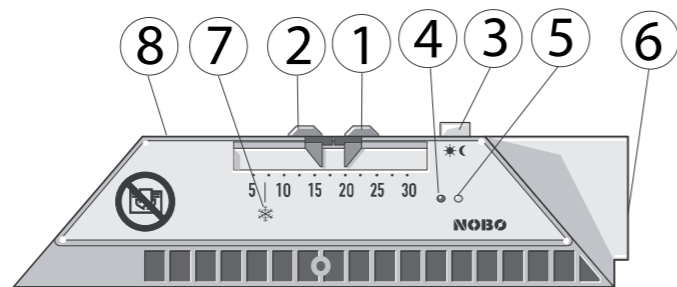

Fig. 1 / Abb.1 / Kuva 1
### 2. CONTROL PANEL (fig. 1)
Set the desired temperature levels for comfort and economy periods. Use override button, fig.1 (3) to switch the heater to economy function when the central unit is programmed to comfort, and vice versa. If the function unit is used without being programmed on a central unit, the override button will just toggle between economy mode and comfort mode. Light diode (4) alternates between red and green depending on whether the heater has received a comfort or an economy signal from the central unit or override button.
### 2. BEDIENFELD (Bild 1)
### 2. PANNEAU DE COMMANDE (fig. 1)